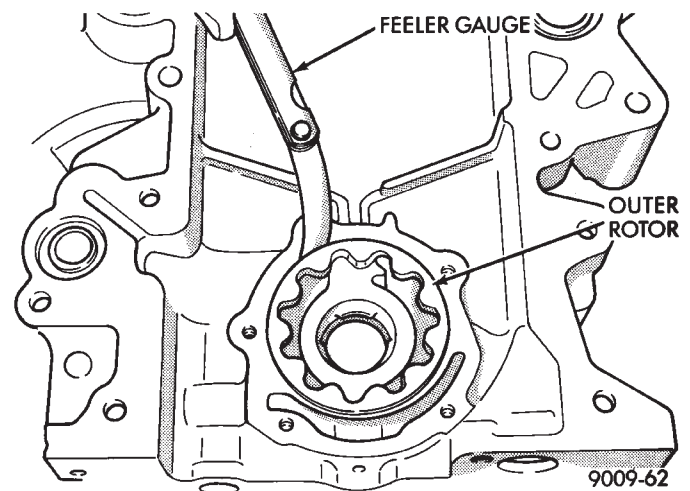

Fig. 10 Measuring Outer Rotor Clearance in Housing
(5) Slide outer rotor into CCC, press to one side with fingers and measure clearance between rotor and CCC (Fig. 10). If measurement is 56mm (.022 inch) or more, replace CCC only if outer rotor is in spec.